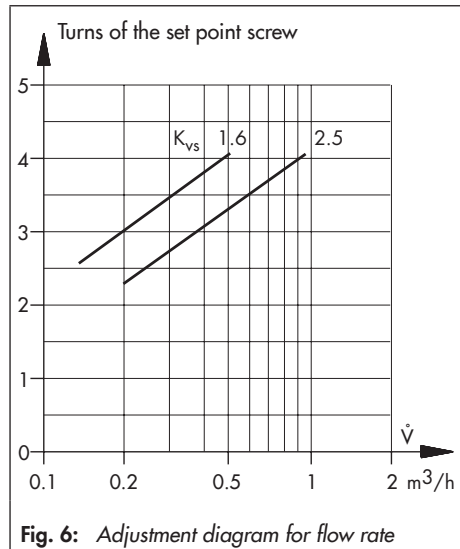

Fig. 6: Adjustment diagram for flow rate
1. To close the restriction (11), de-energize the electric actuator (16).
2. Turn the manual adjuster (19) clockwise (⌚) as far as it will go to close the restriction.
3. Use a suitable tool (Allen key, SW 4) to turn the set point screw (13) clockwise (⌚) as far as it will go.
4. Refer to Fig. 6 to find out how many turns are required to set the flow rate.
5. Use a suitable tool (Allen key, SW 4) to turn the set point screw (13) by the required number of turns. Turn it counter-clockwise (⌚) to open the restriction. The flow rate rises.
7. Reconnect the power supply to the electric actuator (16).